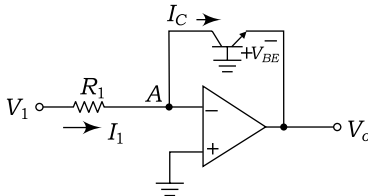

Fig. 7.110
32. Determine the output voltage V_O of a log amplifier using OP-AMP and transistor as shown in Fig. 7.110. Assume $V_{in} = 500$ mV, $R = 10$ k Ω , $T = 290$ K and $I_S = 10^{-13}$ A